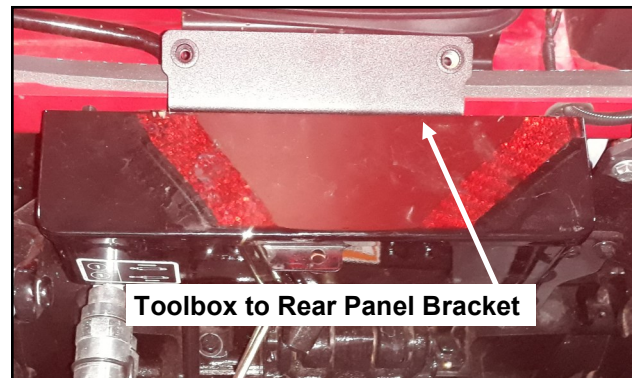

Fig. 4.1 (Toolbox to Rear Panel Bracket)
4.1 Reinstall the toolbox using the fasteners removed in step 1.2. Sandwich the supplied toolbox to rear panel bracket between the toolbox and the OEM toolbox mount. Center supplied bracket in slots and snug fasteners. See Figure 4.1.